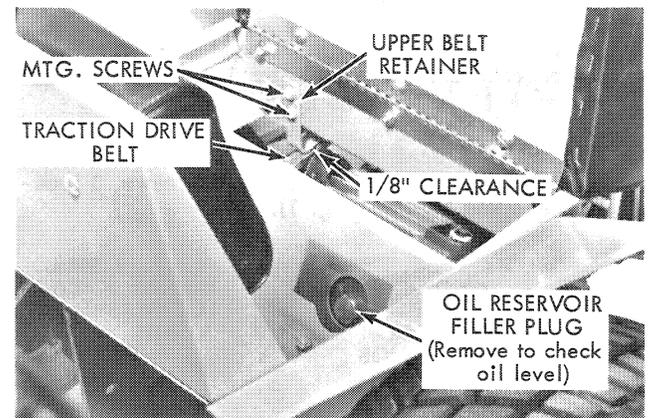

Figure 6
7. Raise the tractor seat and loosen the two hex head screws fastening the upper belt retainer (Fig. 6) to the seat assembly.